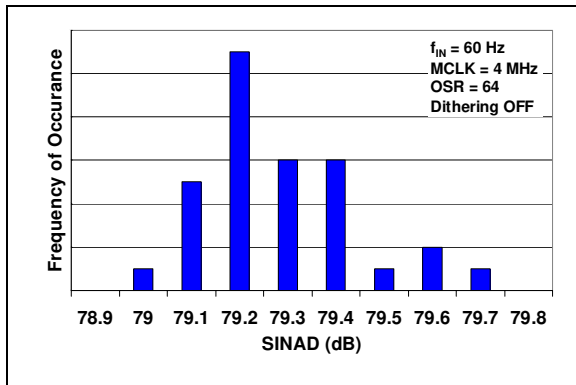

FIGURE 2-19: Signal-to-Noise and Distortion Histogram.
- 6:** Applies to all gains. Offset error is dependant on PGA gain setting (see Figure 2-19 for typical values).